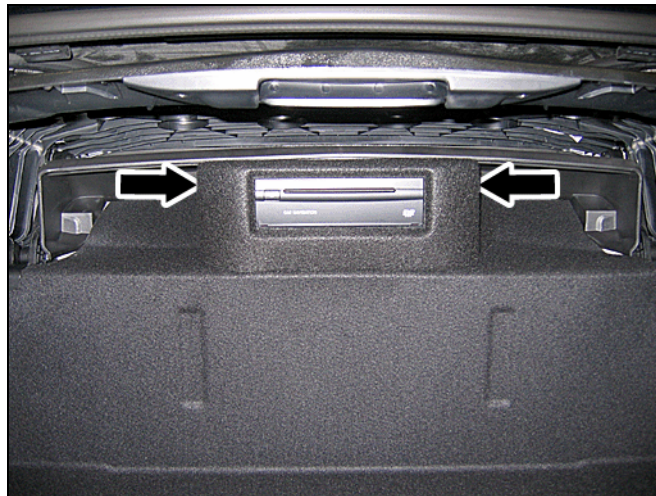

Figure 16
5. Install the kit-included cover—see Parts Information—for the CAR NAVIGATION processor using the kit-included expansion clips (Figure 16).